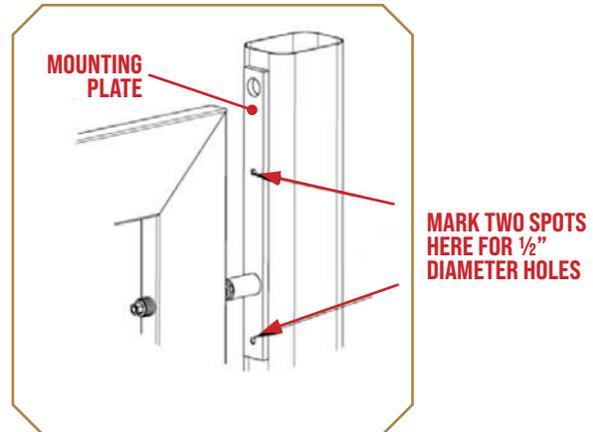

Figure 5
1. Using the mounting plate, mark two hole centers that are $9 \frac{3}{8}$ " apart. Assure they are centered on the inside of the latch post (Figure 5).